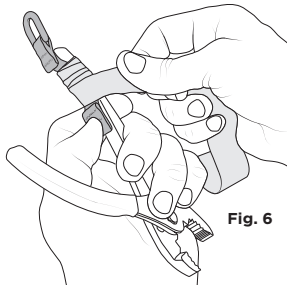

Fig. 6
5. Wrap the tape once around itself beginning below one of the web catch points on Web Tool Tails™ or directly below the barrel lock on Elastic Loop/Cinch Tool Tails™. This keeps the tape in position for continued wraps. [fig 6]